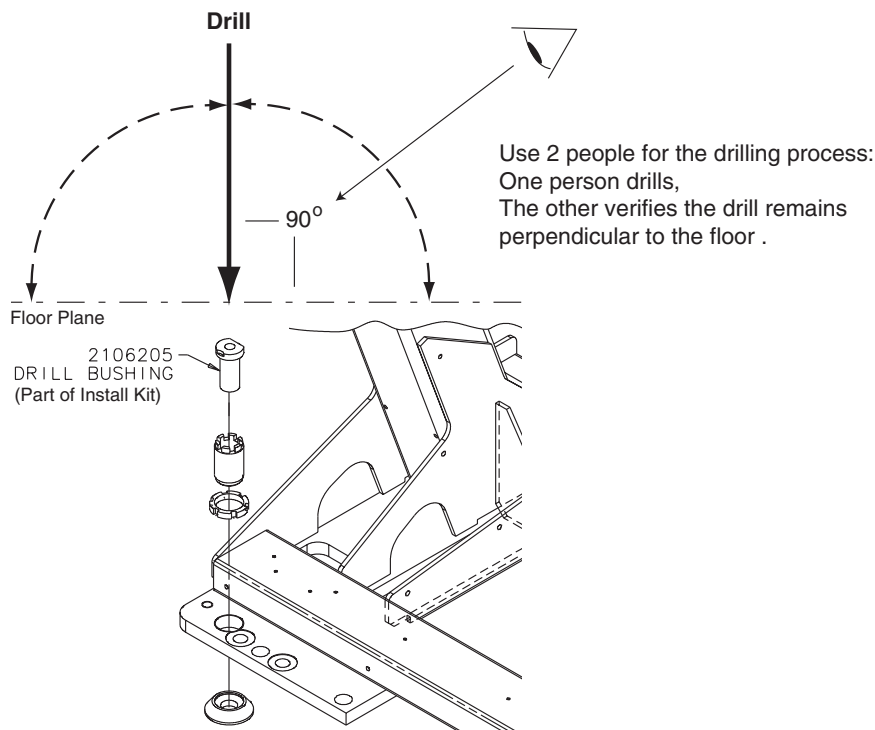

Figure 1-43 Drilling Position
- Review Figure 1-43, before drilling.